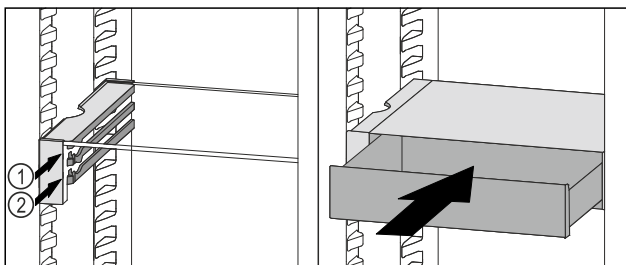

Fig. 148
- Place the VarioSafe drawer behind the stoppers on desired rib Fig. 148 (1) or Fig. 148 (2).